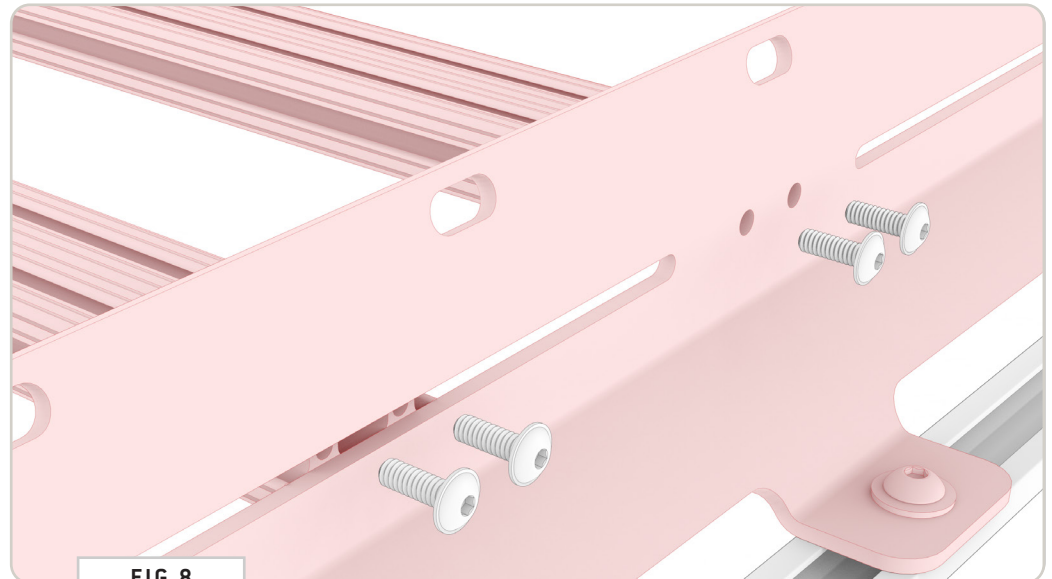

FIG 8
**NOTE** - Keep in mind the layout of your roof top array (solar panels, fans, tents, etc.) You can mount crossbars in the set pair of holes (**FIG 8**), or you can place them in the slots which provides you more freedom of layout.